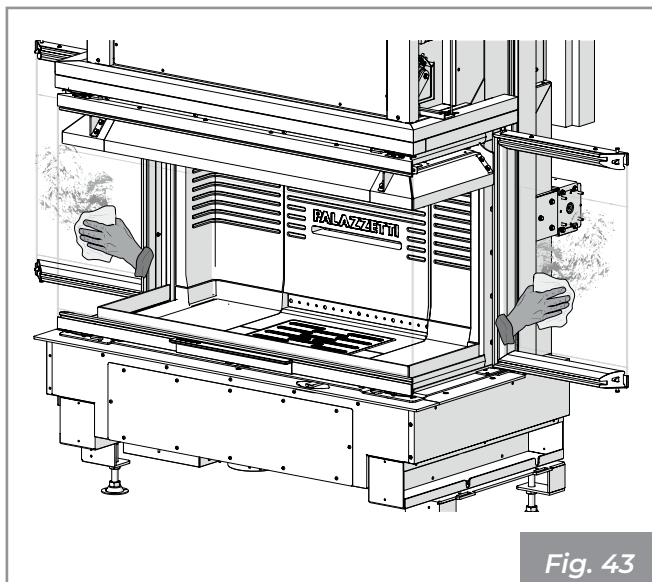

Fig. 43
- 3) Clean the glass with a damp cloth or with paper moistened and dabbed in the ashes (Fig. 43). You can also use detergents suitable for cleaning kitchen ovens.